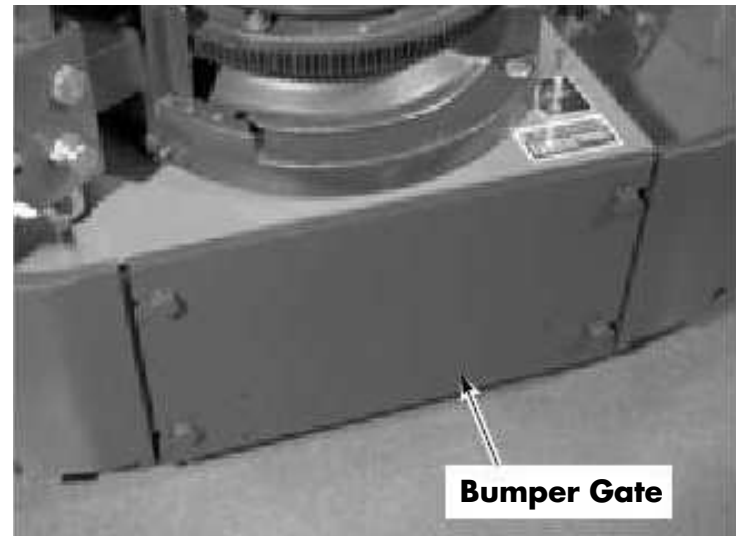

Figure 7-25. Removing Drive Unit
2. Remove the bumper gate. See Figure 7-25.